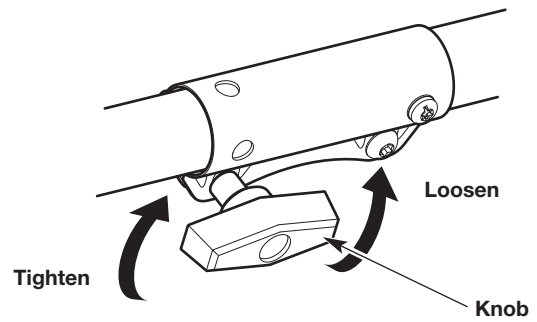

Fig. 10
3. Turn the knob counterclockwise to loosen the coupler (Fig. 10).
6. Turn the knob clockwise to tighten the coupler (Fig. 10).
2. Turn the knob counterclockwise to loosen the coupler (Fig. 10).